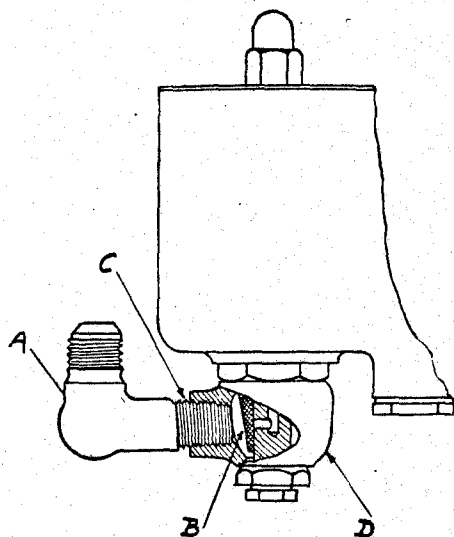

Fig. 70
There have been instances where the gasoline inlet elbow (A) of Fig. 70 has been screwed into the strainer body (D) at point (C) so far that the inner end of the elbow presses